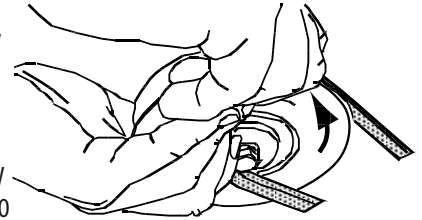

Figure 56
9. Pull the right side of the belt and place the narrow V side of the belt into the PTO pulley. See Figure 56.